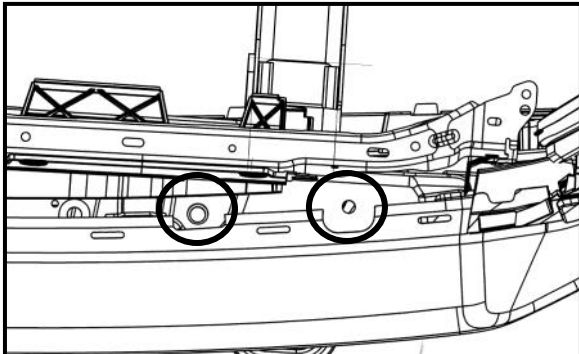

Fig. 7
9. Remove 4 upper bumper bolts attaching the bumper to the frame and remove 2 bottom bolts attaching bumper arm to the frame. See **Figure 7 & 8.**